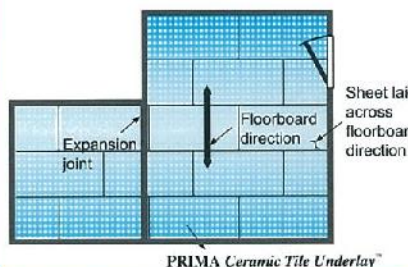

Figure 1 : Sheet Layout
**PRIMA Ceramic Tile Underlay™** sheets should be laid in a staggered or brick pattern, across the direction of floorboards. Sheet joints must not coincide with floorboard joints as shown in Figure 1.